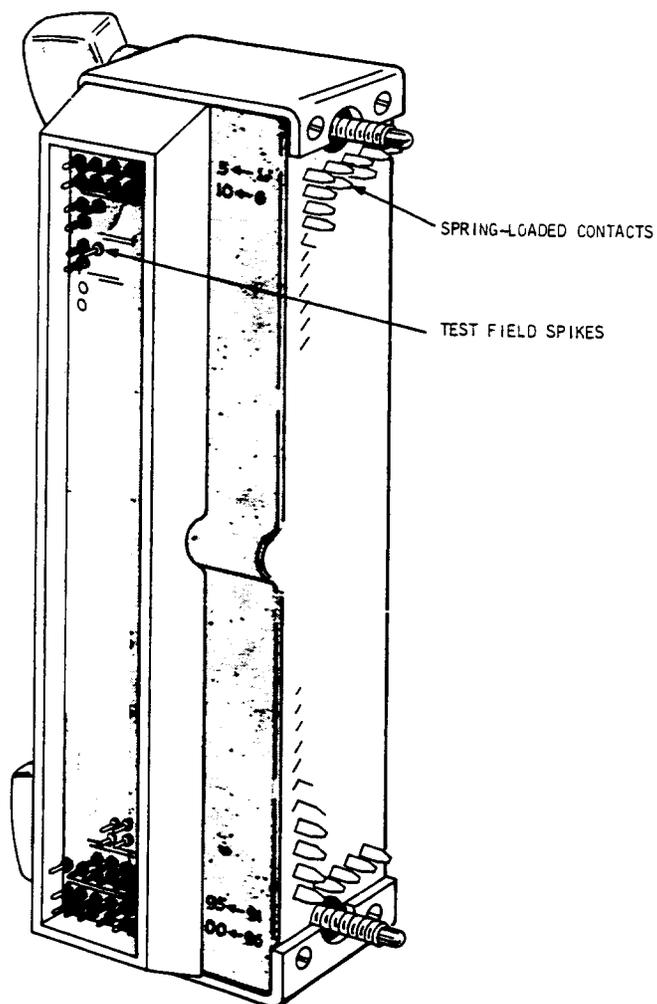

Figure 18—N Test Connector (AT-8882)
7.08 N Test Connector (AT-8882): A 100-pair test shoe (Figure 18) is intended for checking one cable pair at a time.